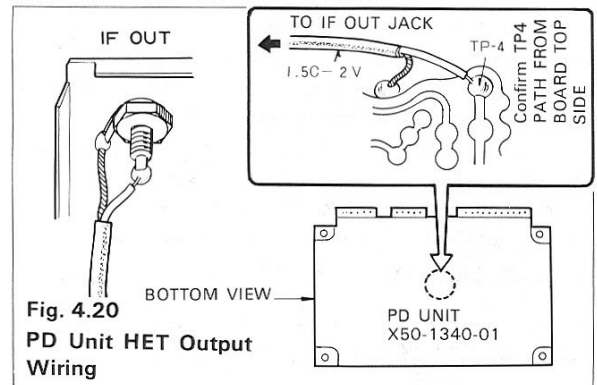

Fig. 4.20 PD Unit HET Output Wiring
3. Solder one end of the supplied 75Ω (1.5C-2V) coaxial cable to TP4 (Fig. 4-20). Connect the other end to the IF OUT jack. (the pre-wired IF output lead should be disconnected and taped).